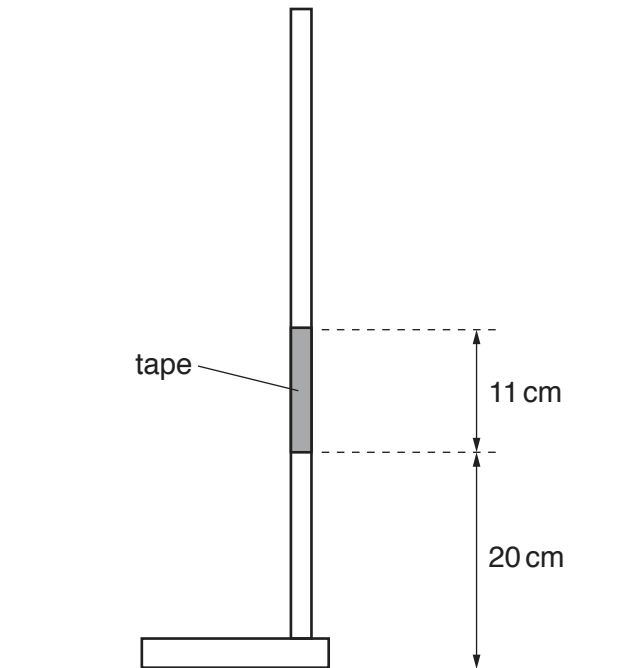

Fig. 2.2
- 2 Tape should be wrapped around the stand to give a fully covered region of length 11 cm as shown in Fig. 2.2.